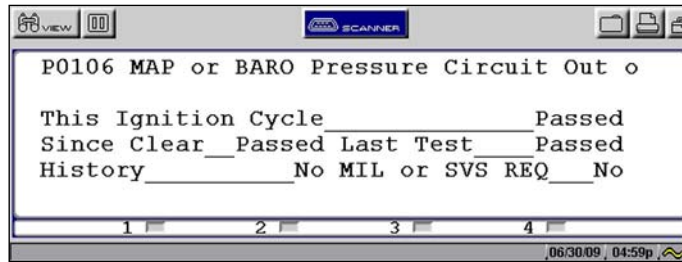

Figure 5-10 Sample DTC Status screen
9. Press **Y/✓** and the status of the selected DTC displays (Figure 5-10).